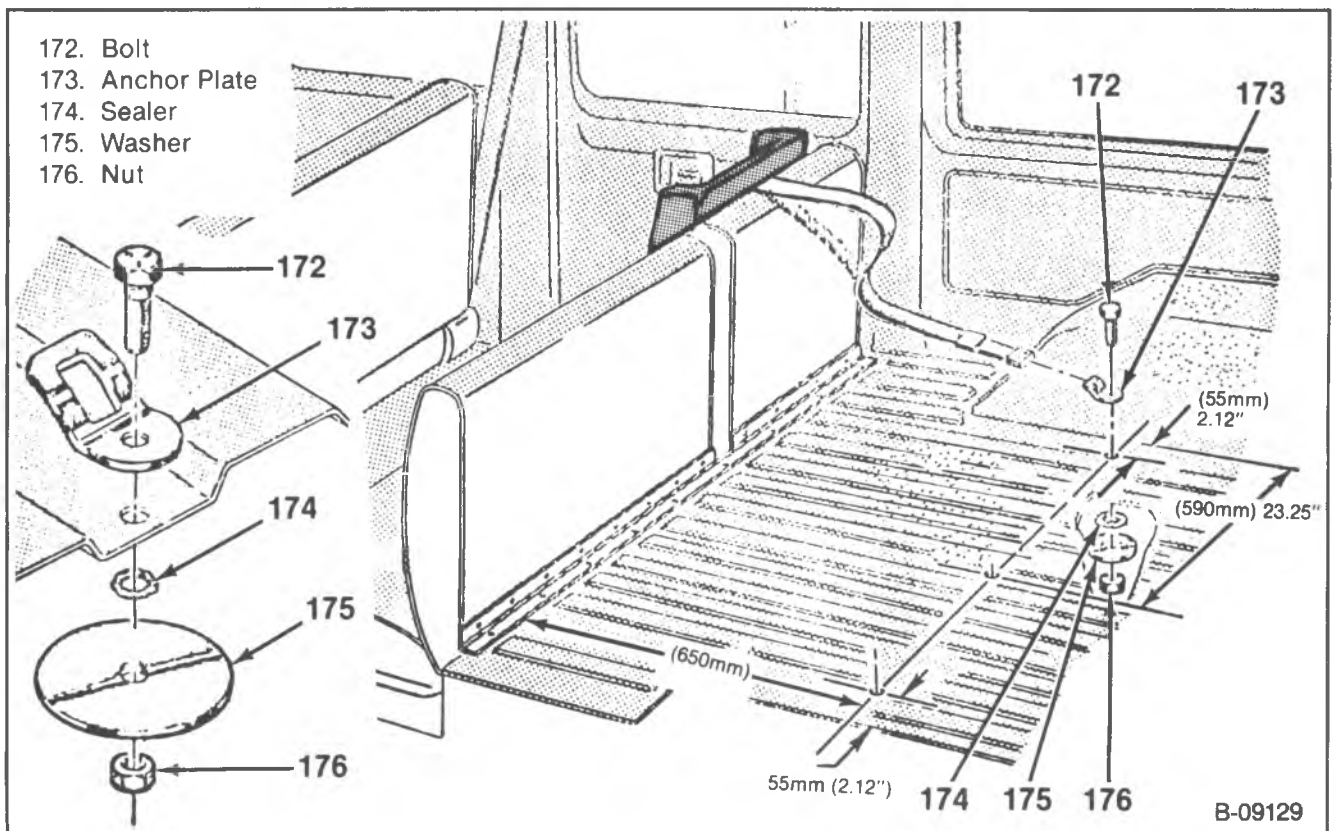

Figure 32 — Suburban Second Seat Top Strap Belt Components
1. Determine the location for the anchor by measuring 650 mm (25 1/2-inches) rearward from the rear edge of the kick-up molding (figure 32). Next: